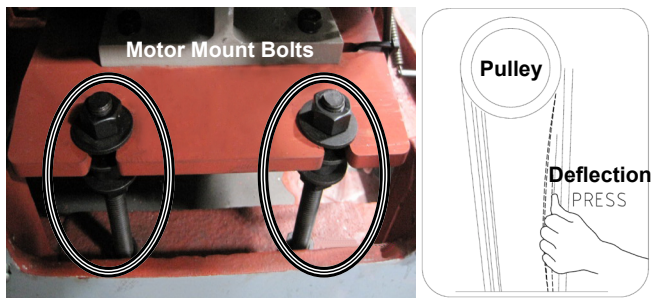

Figure 92. V-belt adjustment.
3. Turn the hex nuts on the motor mount bolts shown in Figure 92 to move the motor mount plate up or down and adjust the V-belt tension. When correctly tensioned, each belt should have about 19mm deflection when pressed firmly.